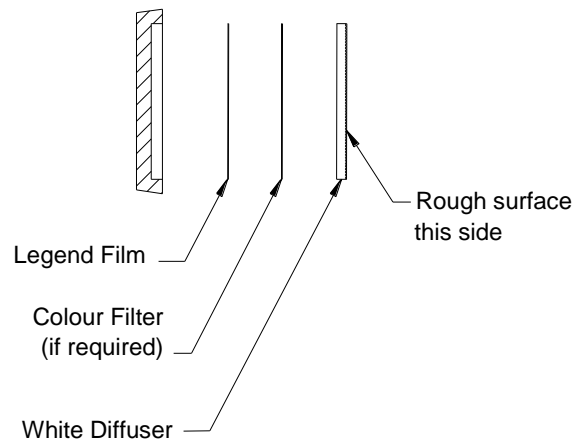

Figure 2-2 Backlit Window Order of Assembly
1. Assemble each window as shown in Figure 2-2 Backlit Window Order of Assembly.